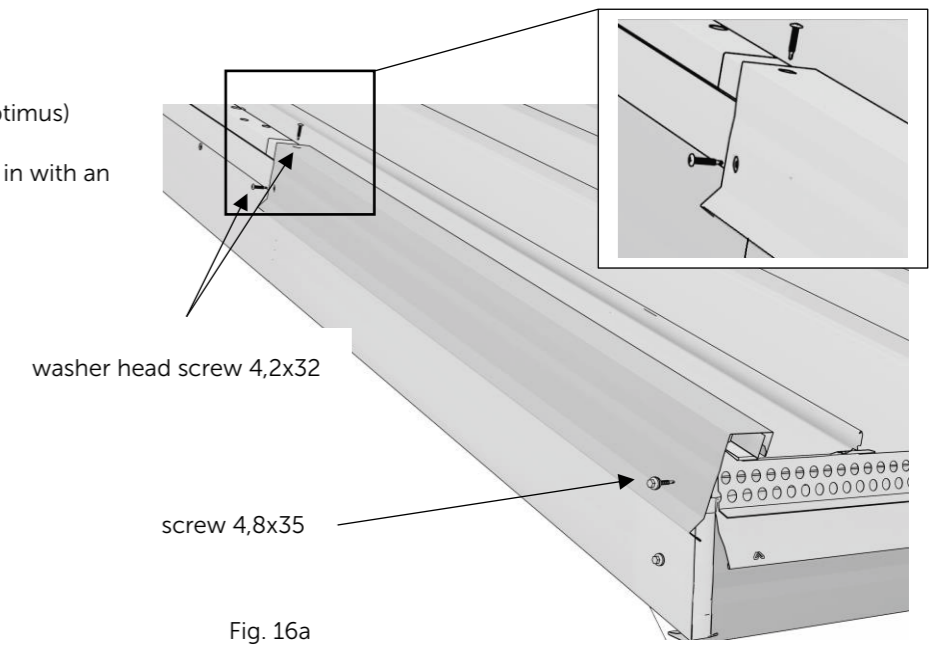

Fig. 16a
- Screw the first outer/overlay barge flashing in with an additional screw 4.8x35 (Fig. 16a).